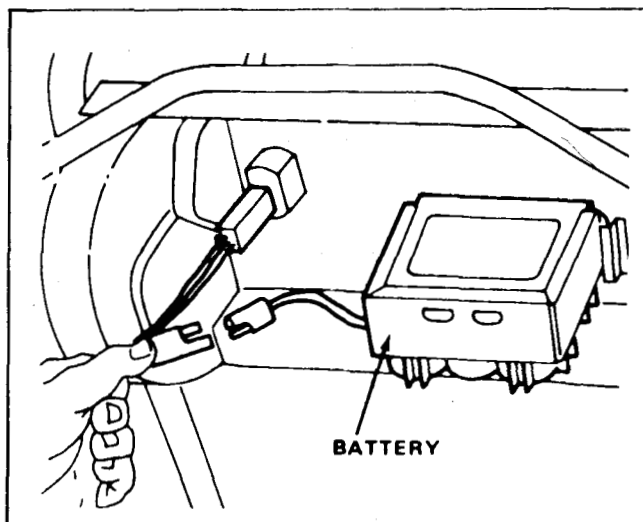

Figure 24
1. Stop the engine and disconnect the wire harness from the battery terminal. See Figure 24.